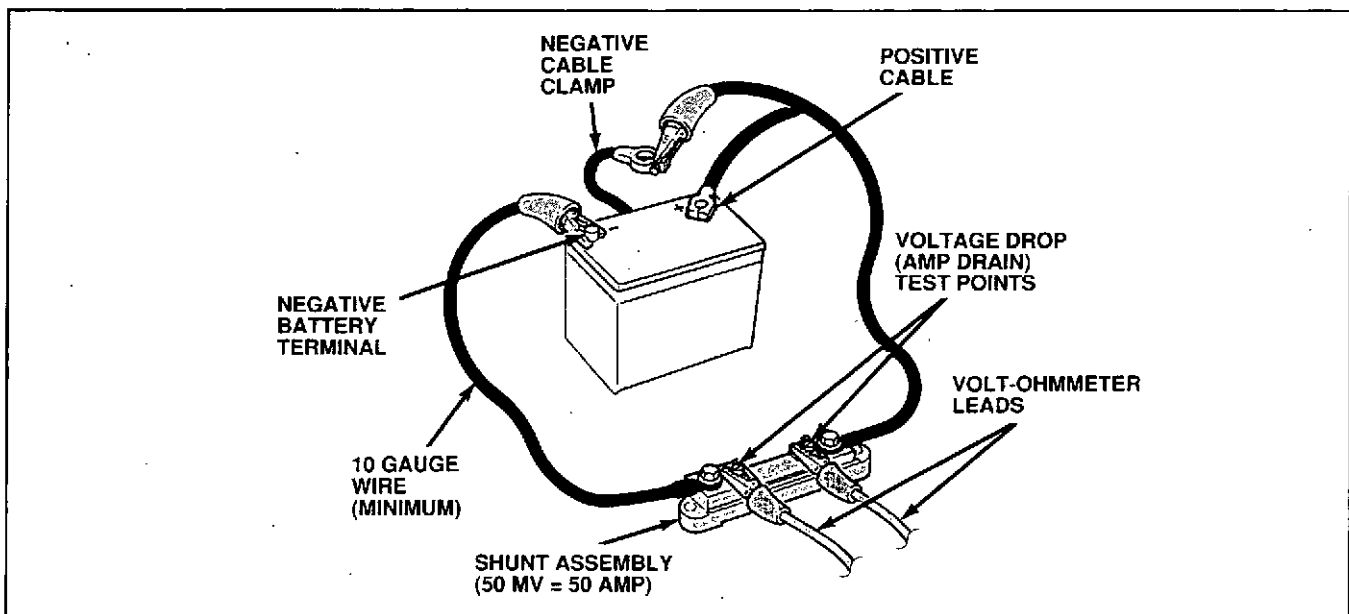

Figure 3-7 Battery Drain Test With Voltmeter and Shunt
4. Connect the shunt assembly as shown in Figure 3-7.